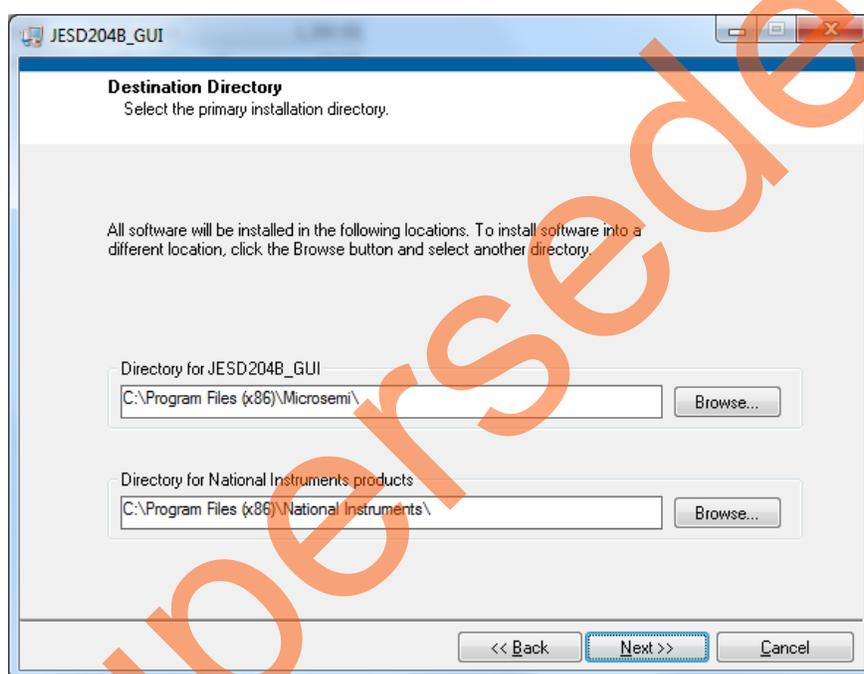

Figure 10 • GUI Set Up Window
4. Click **Yes** for any message from **User Account Control**. The Destination Directory window is displayed with the default locations, as shown in Figure 10.